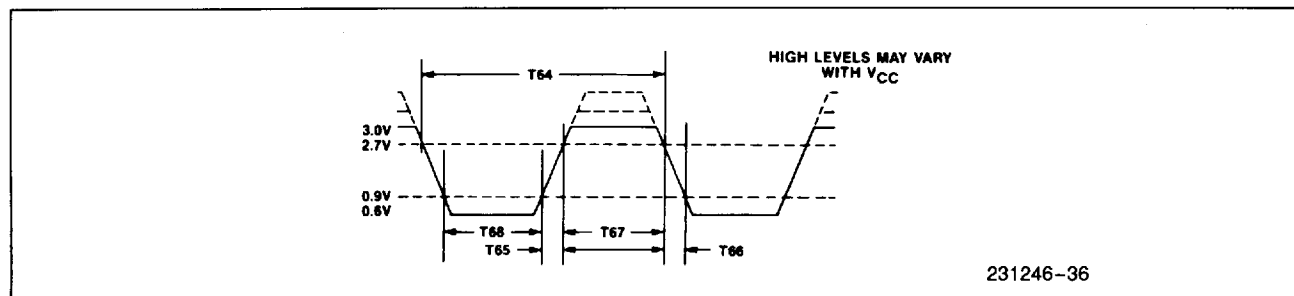

Figure 35. $\overline{\text{RxC}}$ Input Voltage Levels for Timing Measurements
15. 82C501 compatible levels, see Figure 35